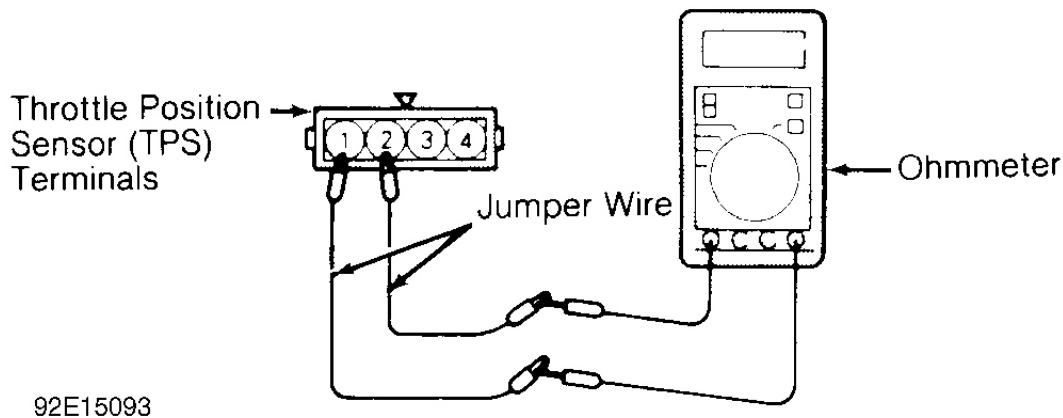

Fig. 13: Connecting Ohmmeter to TPS (Colt Vista AWD, Expo AWD & Summit Wagon AWD)
1. Disconnect electrical connector from TPS. Connect ohmmeter between terminals No. 1 (sensor ground) and No. 2 (idle switch) on TPS. See **Fig. 13**.